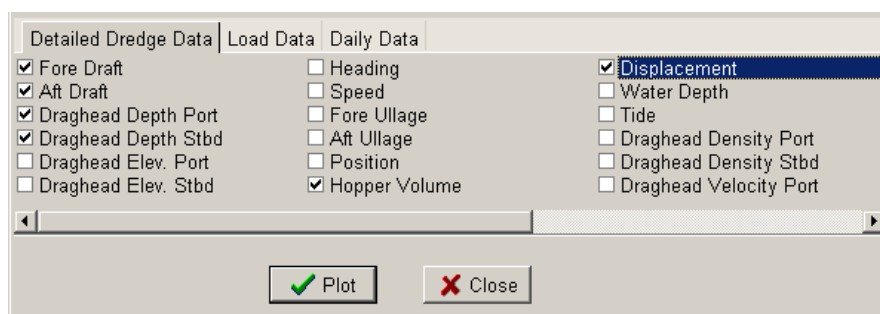

Figure 2.5 Selecting data sets to be plotted.
4. Click on the toggle box next to the data sets to be plotted. Clicking on it again will deselect it. A check mark will appear in the toggle box of each data set that will be plotted as shown in Figure 2.5.